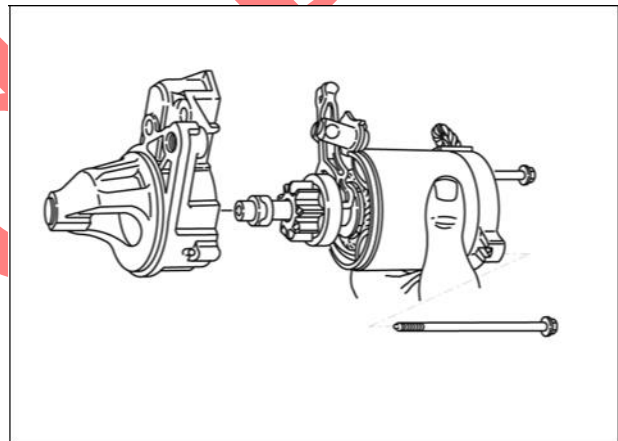

Figure 58
4. Remove brush retainer plate (A, Figure 58).
5. Remove brushes and springs from brush holder (B).